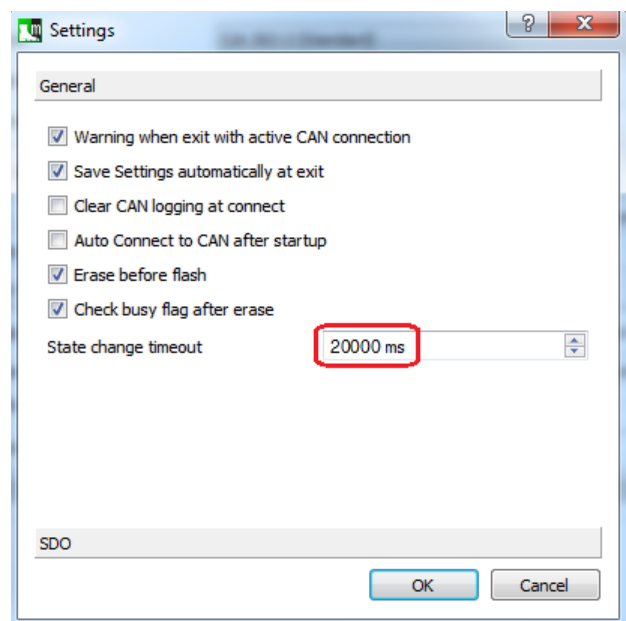

Figure 4 “Settings, Options, General”
**Remedy** Increase the time for this state change. See Figure 4 on page 3.